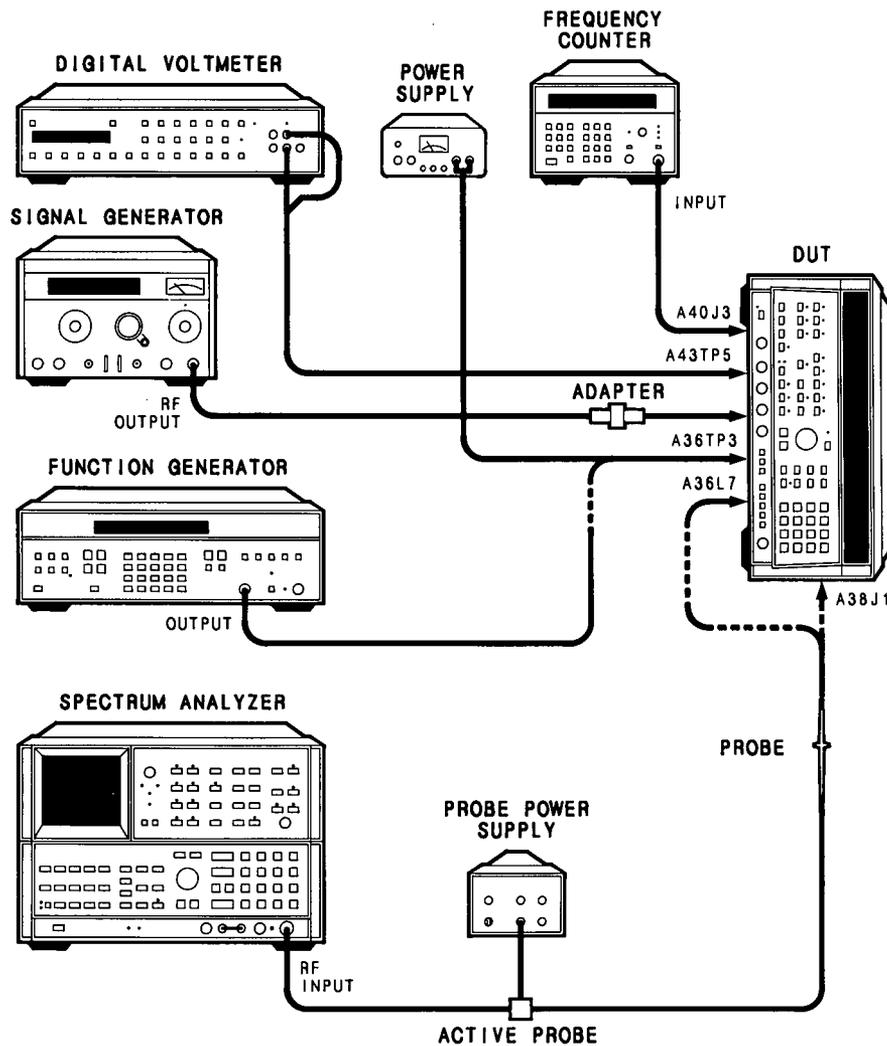

Figure 5-9. 20/30 Loop Phase Lock Adjustments Setup
1. Position the DUT in test position as shown in Figure 5-9 with bottom cover removed and allow one-half hour warm up time. Set LINE switch to STANDBY. Remove A41 PLL2 phase detector from its connector on the motherboard. (It is not necessary to completely remove the A41 assembly from the instrument).